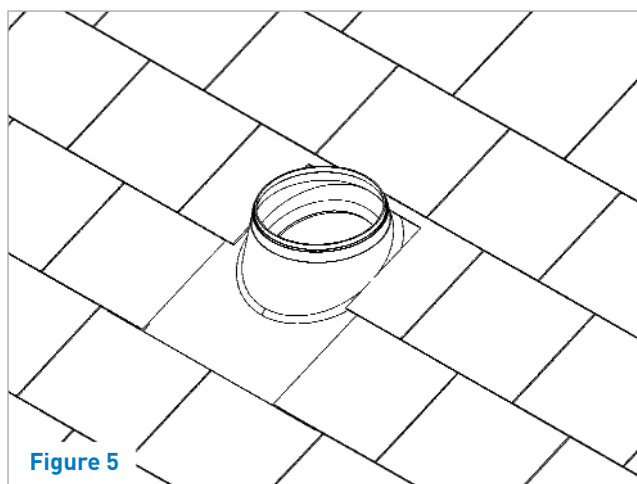

Figure 5
14. Any remaining slate courses can now be laid / replaced in the normal way (Figure 5).